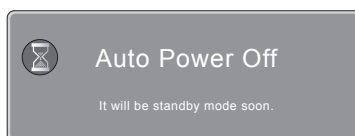

Figure 33
**Enable:** This setting will activate the feature. Approximately nine minutes after there is a loss of the video signal, an On-Screen message will appear. If the MDLP1 doesn't receive a video signal on the currently selected input or a new command is not issued via the Control Panel or Remote Control, the MDLP1 will switch Off about one minute later. Refer to figure 33.